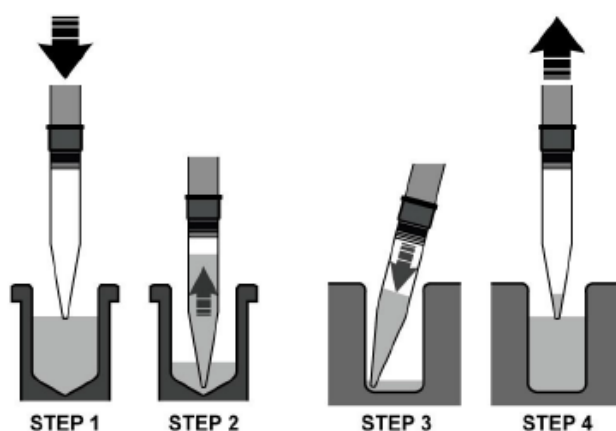

Figure 17. Reverse pipetting.
- Add Gel-Dye solution to chip wells 3, 7, 8 and 10 using a Reverse Pipetting Technique as shown in Figure 17.